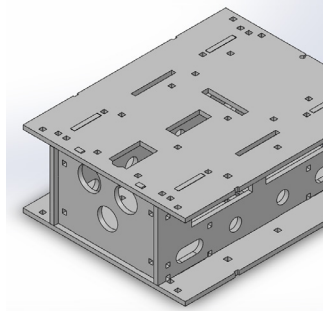

Figure 3
3. Place the other large piece on the top of the assembly. Make sure the rectangular holes in both large pieces are facing the same direction. (Figure 3)